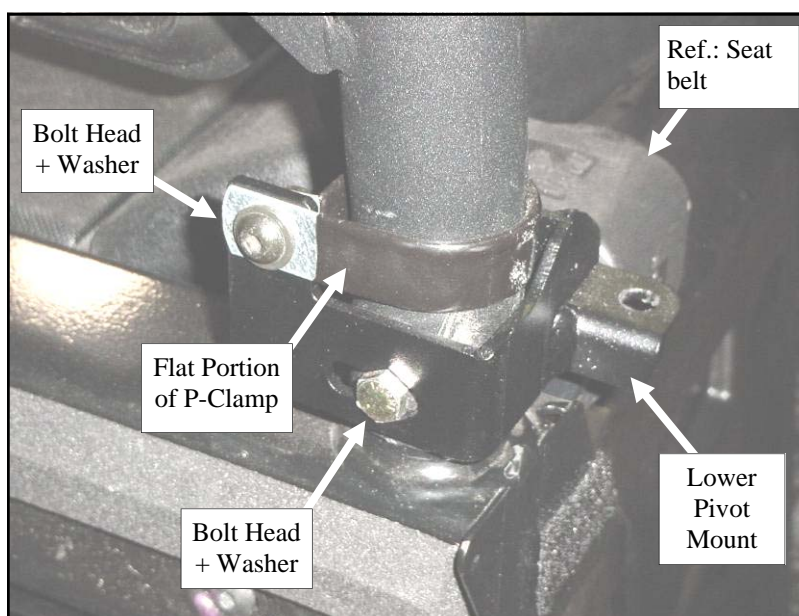

Fig. 6.2 (view from rear of passenger's side)
6.2 Per figure 6.2, install the passenger's side lower pivot mount oriented as shown with the door pin receiving hole outboard and the mounting hole for the P-clamp up and inboard as shown. Use the following hardware in the R.O.P.S. through hole: one 5/16-18 x 2-3/4" long hex head bolt, two 5/16" small, standard, steel washers, and one 5/16-18 locknut. Tighten the bolt.
6.3 Per figure 6.2, assemble a P-clamp (3/4" wide) around the R.O.P.S. tube and around the mounting tab on the lower pivot mount as shown with the flat portion of the P-clamp towards the rear of the vehicle. Use the following hardware through the P-clamp: one 5/16-18 x 1" long button head bolt, two 5/16" small, standard, steel washers, and one 5/16-18 locknut. The bolt head to be towards the rear of the vehicle. Tighten the bolt.